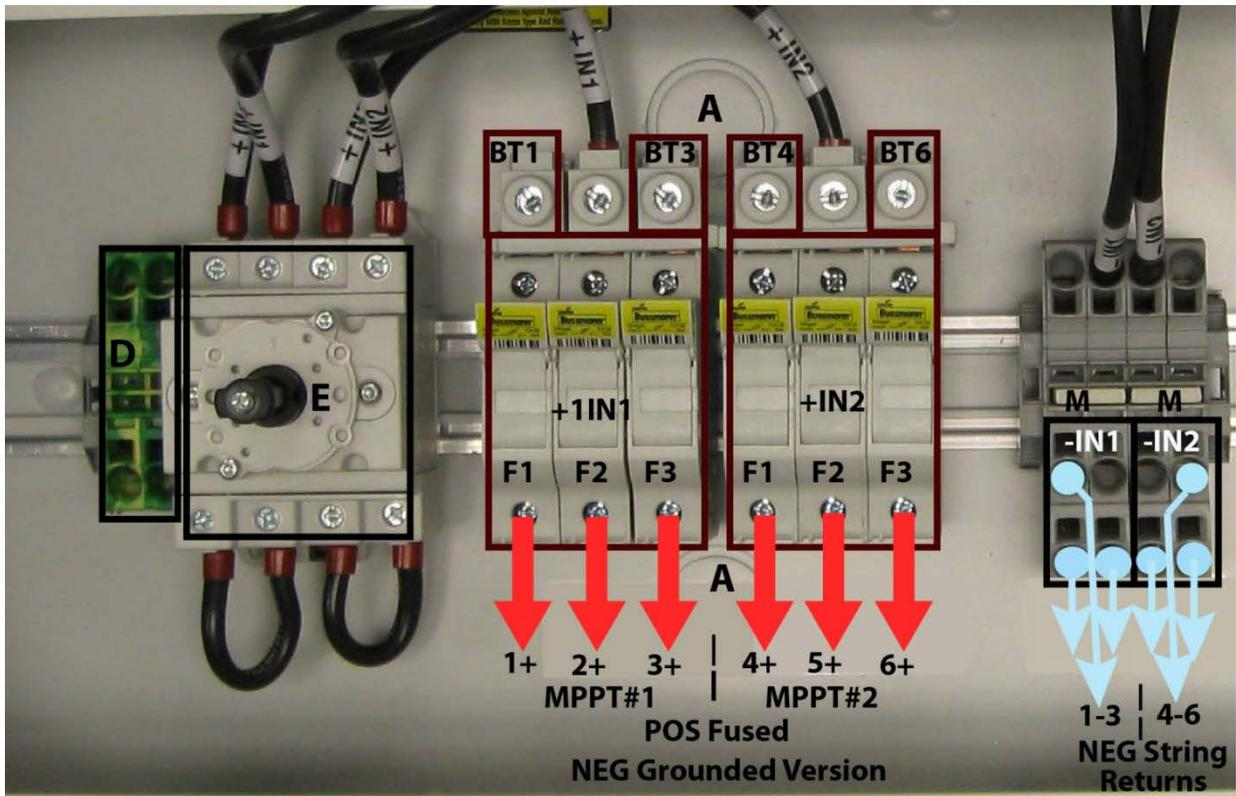

Figure 3.06 - DC Array Connection PVI-10/12-I-OUTD-S2-US/CAN--XXX using Fuses
- Refer to Figure 3.06. Locate the incoming DC array wiring at the switchbox chassis and measure the voltage to ensure the array output is non-hazardous.